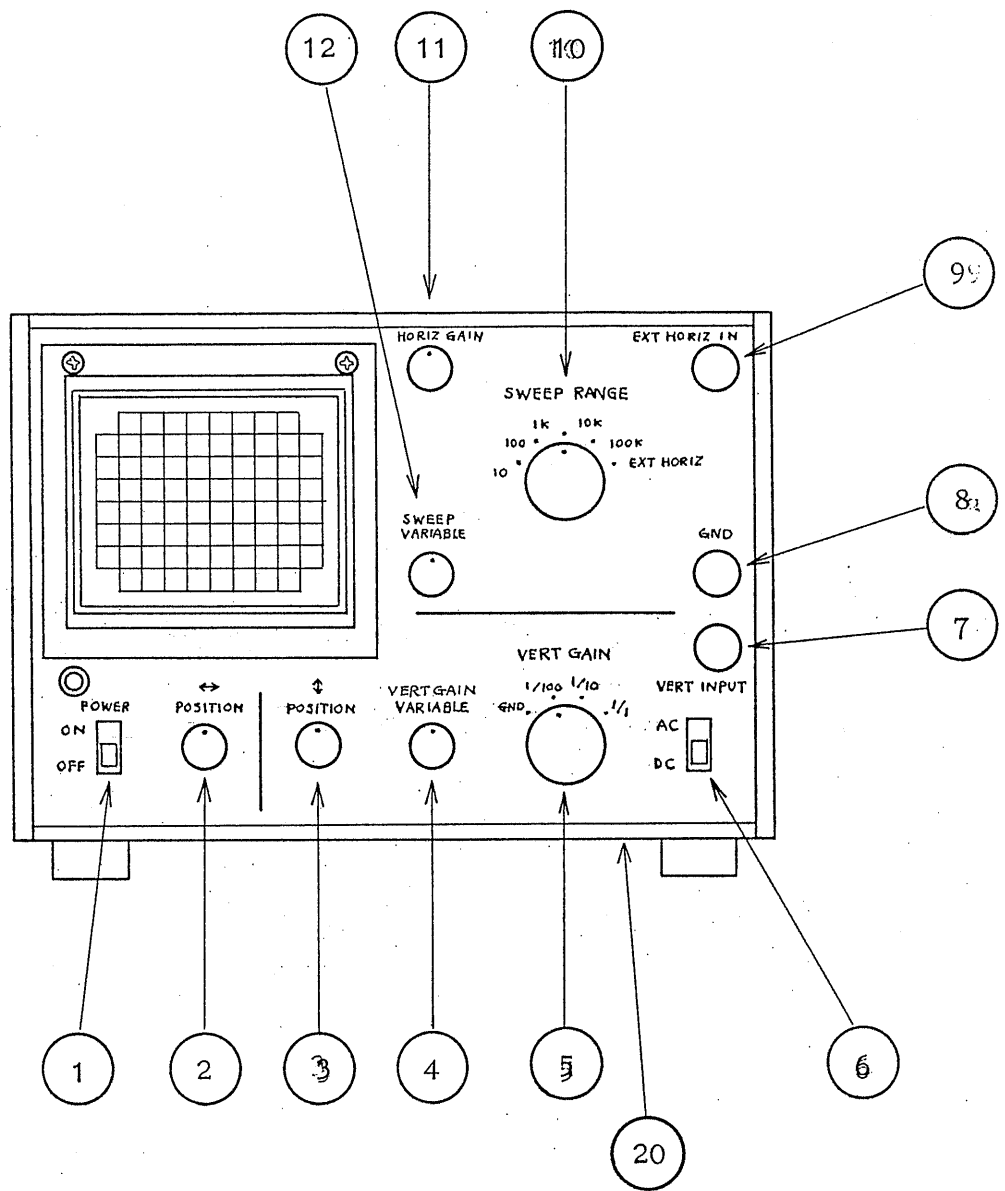

Fig. 1
3. EXPLANATION OF PANEL (Fig. 1 and 2)
Feed the output of an oscillator to the vertical input terminal as illustrated in Fig. 1 or 3. When the output and frequency of the oscillator are properly adjusted, the output waveform will appear on the CRT screen. As the SWEEP RANGE knob is now set to 10 - 100 Hz, a range of frequencies to be synchronized covers from 10 to 100 Hz.